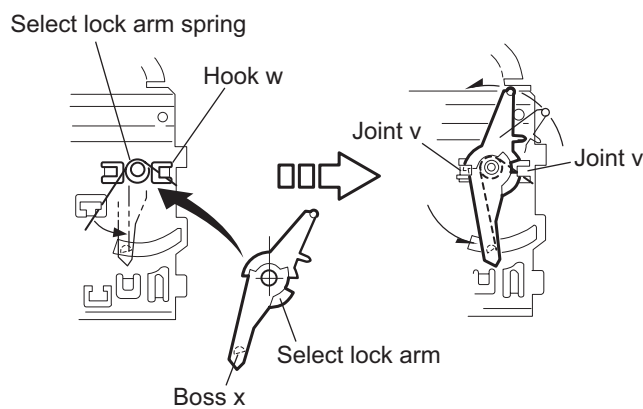

Fig.24
2.2.12 Reassembling the mode sw. / select lock arm (See Figs.24 to 26)